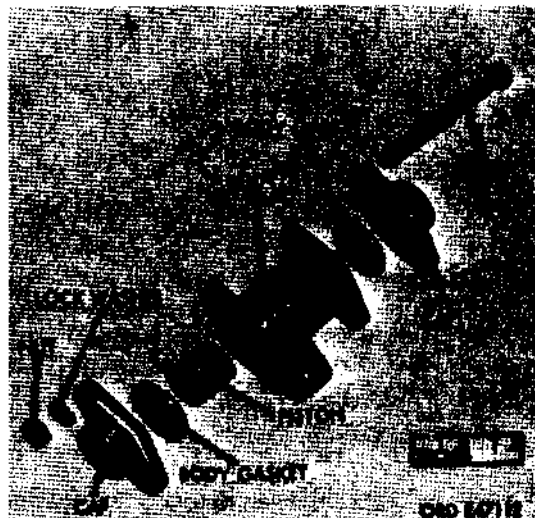

Figure 322. Double check valve
- (4) Disassemble double check valve (fig. 322).
- (a) Remove the two nuts (fig. 322), lockwashers, and screws attaching the caps to the valve body, and remove the cap from each end of the body.
- (1) Cleaning. Refer to paragraph 237.
- (2) Inspection.
- (1) Assembly of double check valve (fig. 322).